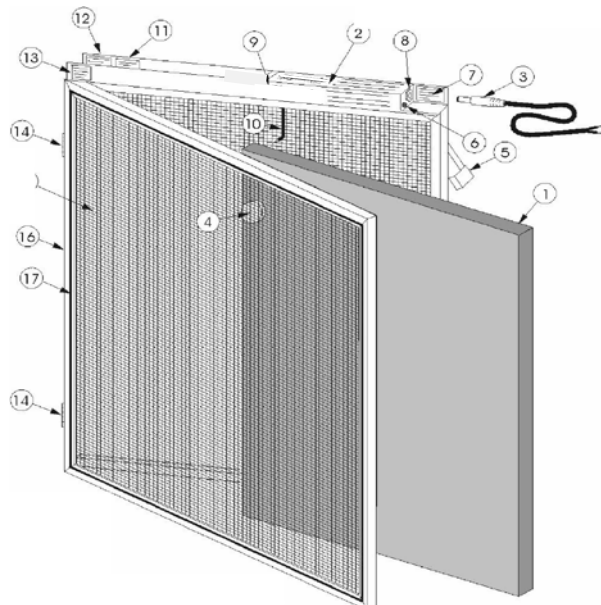

Figure 7
- 2) Replacement media pads can be ordered from your heating and air conditioning contractor. Have the model number and/or unit size available when calling. Refer to the size label on the unit (see item 12 in figure 7) for the unit size. Air cleaner media pads are sized according to the size of the overall air cleaner and NOT the size of the media pad itself.